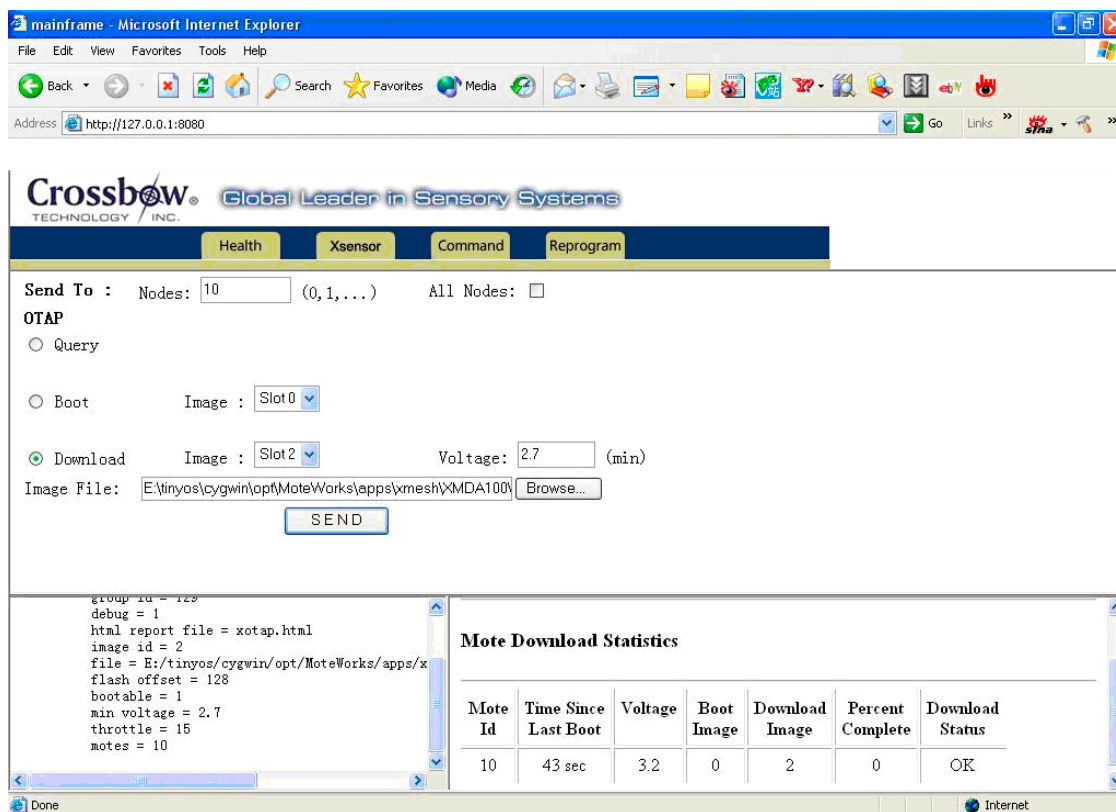

Figure 5-4. Screenshot of Command Web Interface
4. **Reprogram:** provides *XOtap* interface. It supports Query, Boot and Download. An example web page is shown in Figure 5-4.